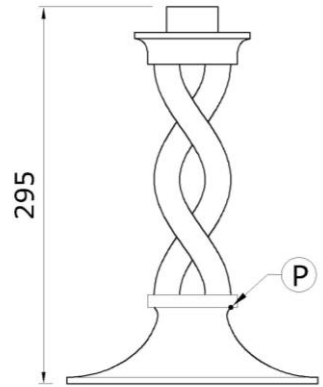
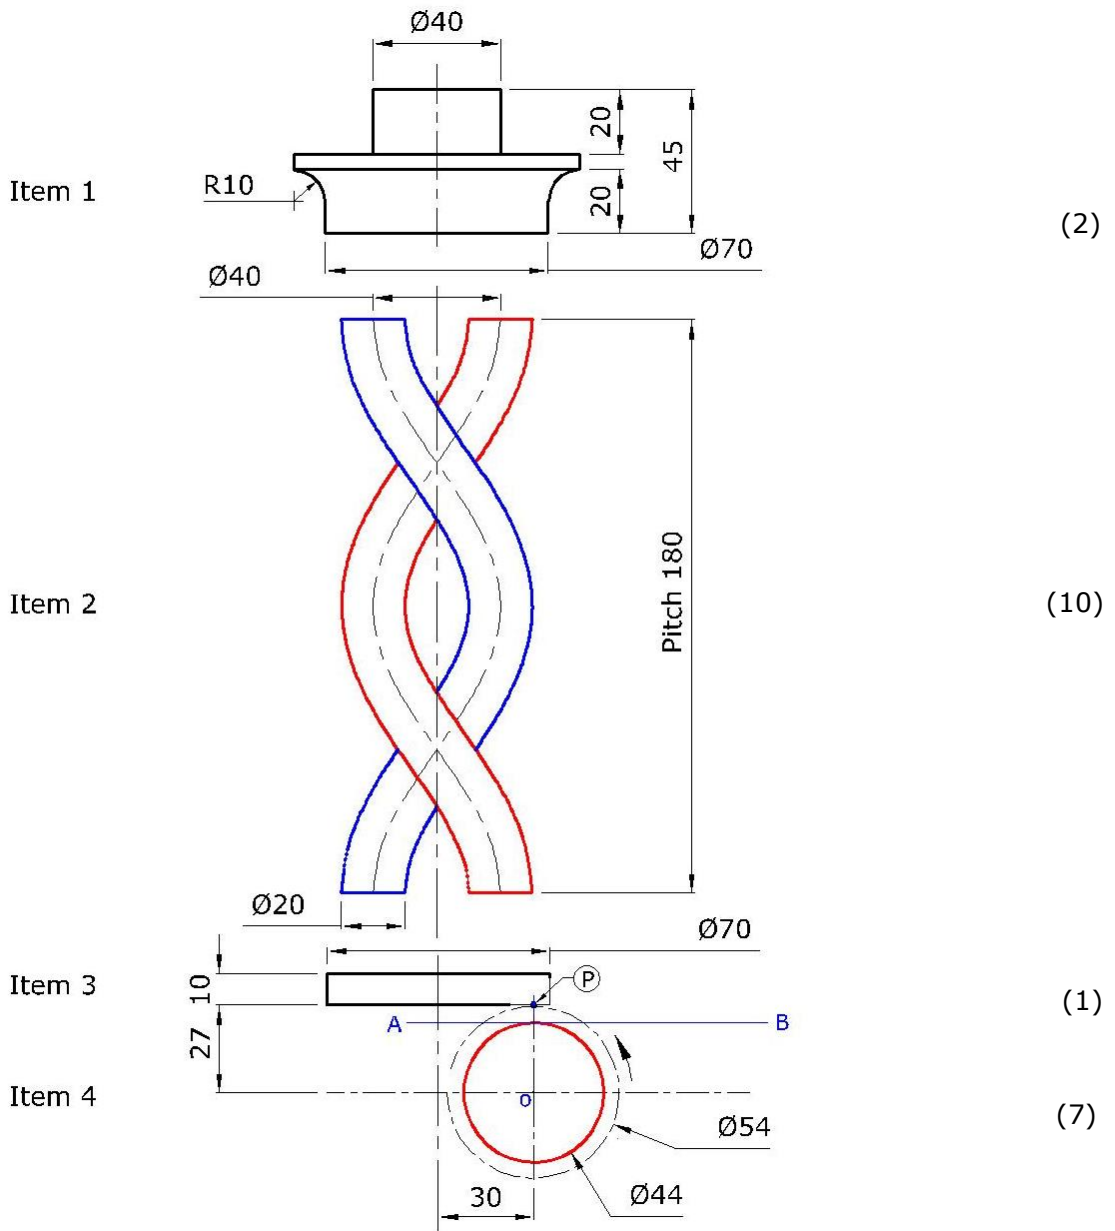

Figure 2a
Figure 2b
2. An illustration of an ornamental candle holder is given in Figure 2a. The ornament consists of four items shown in Figure 2b.
You are requested to use the given dimensions to draw / construct the assembled candle holder as shown in Figure 2a. Note that you are requested to construct the right-hand side semi-superior trochoid and reflect the left-hand side.